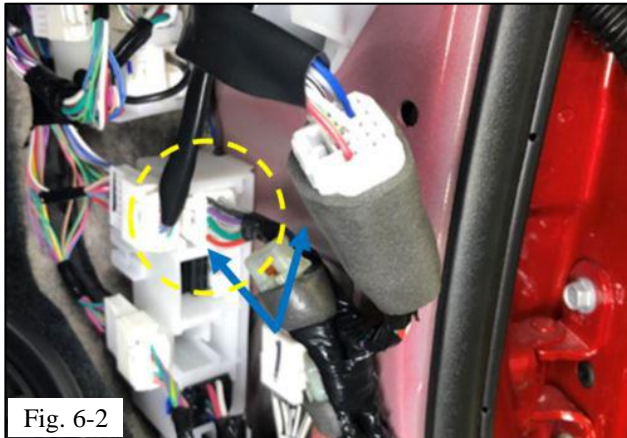

Fig. 6-2
-  (b) Plug the body wire harness connectors (10 pin, White) in between connectors IK1 (10 pin, Gray) in the RH cowl side trim (Fig. 6-2).